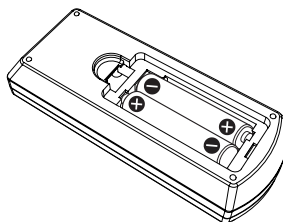

Fig. 2
- 2) **Insert batteries and close the cover (Insert the  side first.) (Fig. 2)**